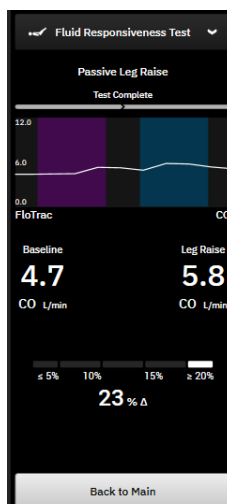

Figure 13-18 Fluid Responsiveness Test – Results Screen
- 11 At the conclusion of the test, the change in the selected **Parameter** value as a response to the fluid challenge will be displayed. See Figure 13-18. Touch the **Back to Main** button to perform another test, or the hide **Side Panel** icon  on the navigation bar to return to full display of the main monitoring screen.
- 11 At the conclusion of the test, change in the selected **Parameter** value as a response to the fluid challenge will be displayed. See Figure 13-18. Touch the return icon to perform another test, or the home icon to return to the main monitoring screen.